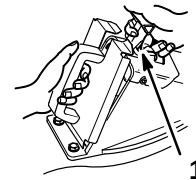

Figure 5
3. Insert the plug into the discharge tunnel opening and fit the lower section into the opening first (Fig. 5).
4. Lift the door latch on the door handle (Fig. 5), and push the top of the plug all the way in while moving the door handle rearward.